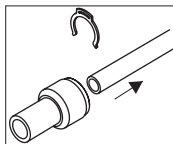

Fig. 3
- 3) Pull the tubing out (fig. 3).